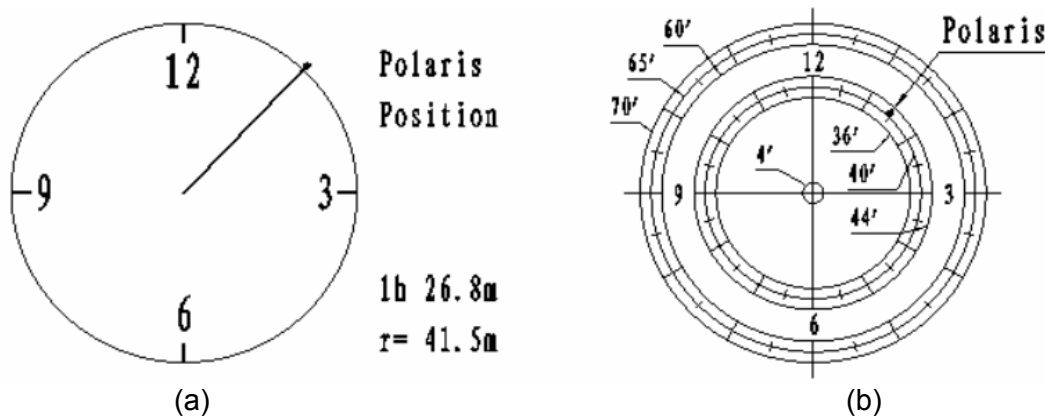

Figure 21. Place the Polaris at the position as shown on hand controller
6. Make sure that the time and site information of the hand controller is correct. Press the **MENU** button, then select "**Align**" and "**Pole Star Position**" to display the current Polaris position. For example, on May 30, 2010, 20:00:00 in Boston, United States (Lat N42°30'32" and Long W71°08'50", 300 min behind UT, DST set to Y), the Polaris Position is 1hr 26.8m and $r = 41.5m$, as shown in **Figure 21** (a).
7. Adjust the mount in altitude (latitude) and azimuth (heading) direction to place Polaris in the same position on the Polar Scope Dial as indicated on the HC LCD. In this case, the Polaris will be located at a radius of 41.5' and an angle of 1 hour 26.8 minute, as shown in **Figure 21** (b).